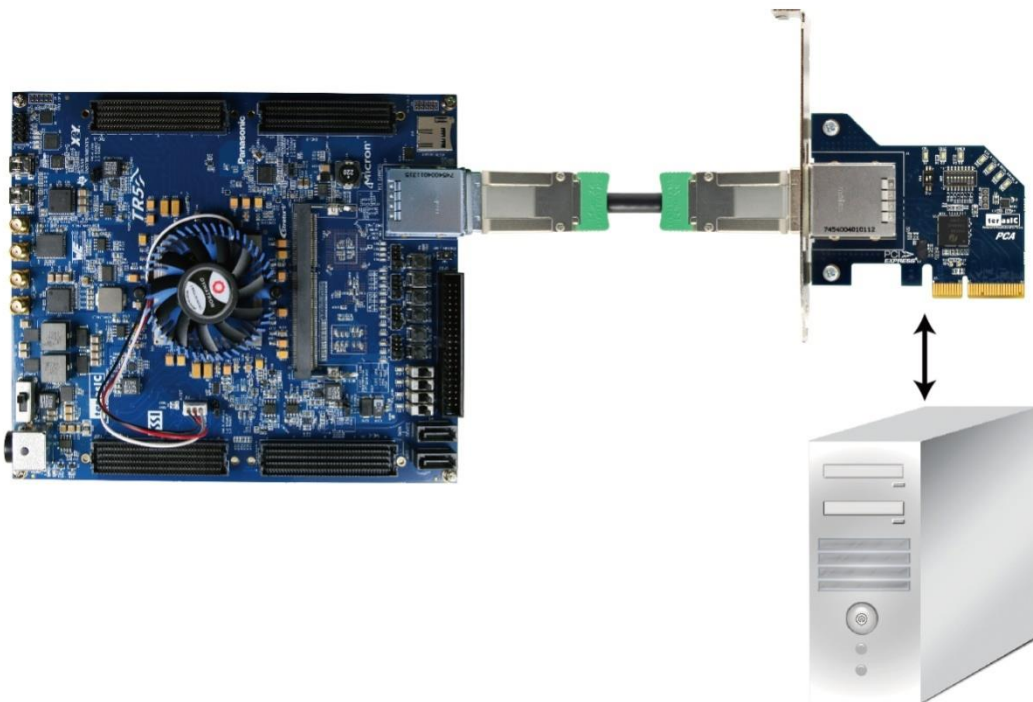

Figure 7-3 FPGA board connect to PC
2. Plug the PCIe adapter card into the PCIe slot on the PC motherboard. Use the PCIe cable to connect to the TR5 PCIE connector and the PCIe adapter card (See **Figure 7-3**)